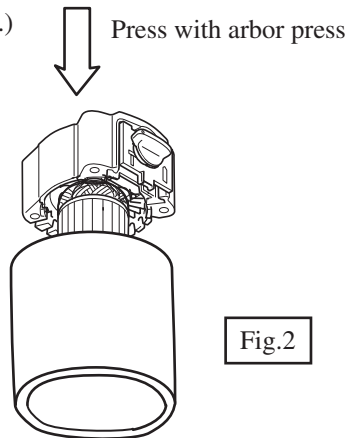

Fig.2
- (2) Set cam housing complete with armature on the cylindric jig, and press the armature shaft with arbor press as illustrated in Fig.2. (Impossible to remove armature with hand.)